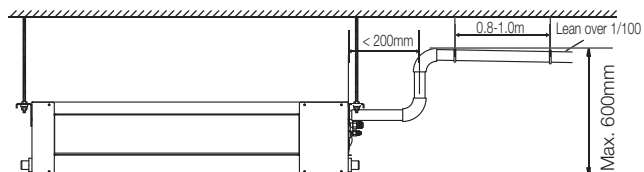

Fig.8-2
- In case the drainpipe outlet is higher than pumping connective pipe of the main body, the drainpipe must be arranged upwards vertically by using connective assembly of the water outlet for vertical bending, and the height of the drainpipe shall set to the defrosting pan surface no more than 600mm, otherwise, too much backflow while shutdown would leads to overflow (Refer to Fig.8-2).(Only available for the unit with pump).